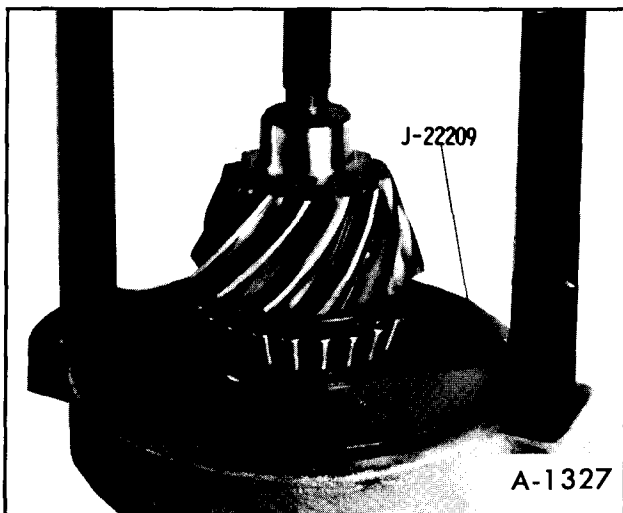

Figure 39—Installing Pinion Rear Bearing
12. Install rear pinion bearing as shown in Figure 39.